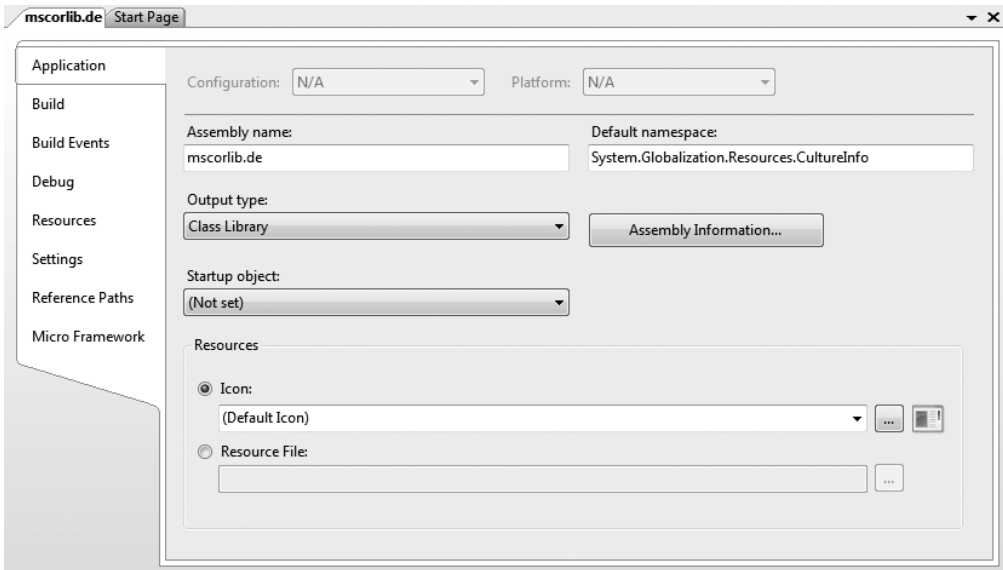

Figure 10-5. Changing the standard namespace of a project
2. Further, you have to change the standard namespace of a project on the Application tab page in the project properties to `System.Globalization.Resources.CultureInfo` (see Figure 10-5).